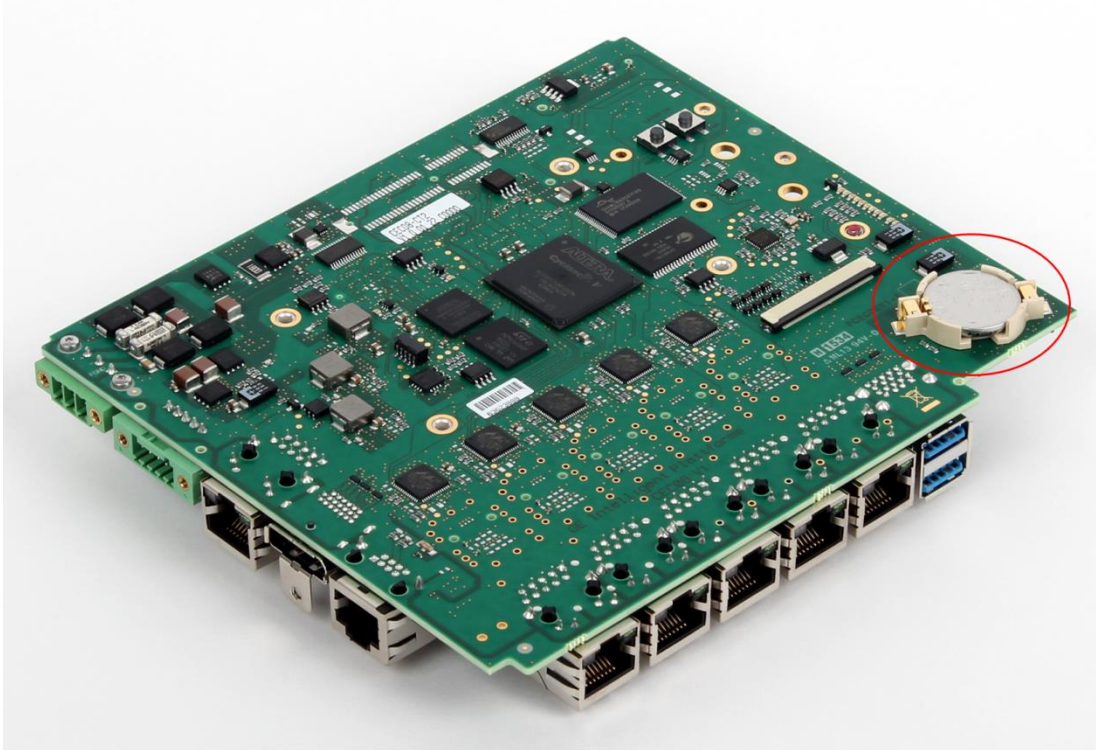

Figure 20: Location of RTC battery on CPE400
The CPE400 is shipped with a real-time clock (RTC) battery installed on an internal circuit board (see Figure 20). This battery will need to be replaced periodically by a qualified service technician. Typically, no action is required during initial installation.
8. Remove the heat sink. This exposes the circuit board, connectors and coin battery shown in Figure 20.